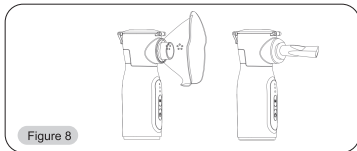

Figure 8
- 2) Please use masks and mouthpiece specifications provided by manufacturer. Figure 8 shows the installation method.